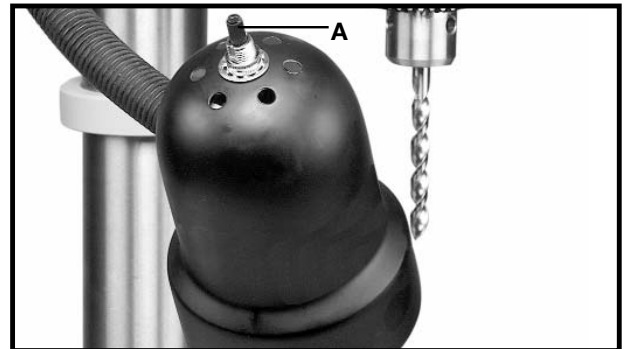

Fig. 19A
⚠ WARNING: The flexible lamp operates independently of the drill press. To turn the lamp “ON” and “OFF”, rotate switch (A) Fig. 19A.